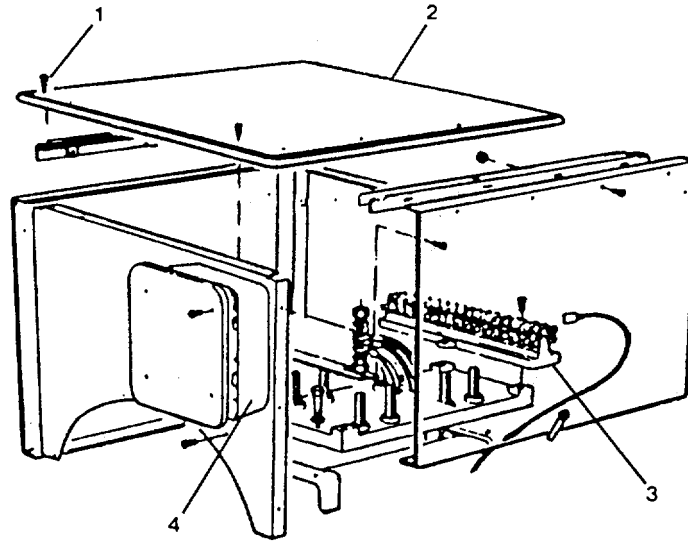

FIGURE 3-7. Generator Terminal Box.
- b. Remove the screws (1, Figure 3-7) and remove the terminal box cover (2).
It is extremely important to ensure that all wiring and cables are tagged with locations recorded as they are removed from the terminal block (3, Figure 3-7).